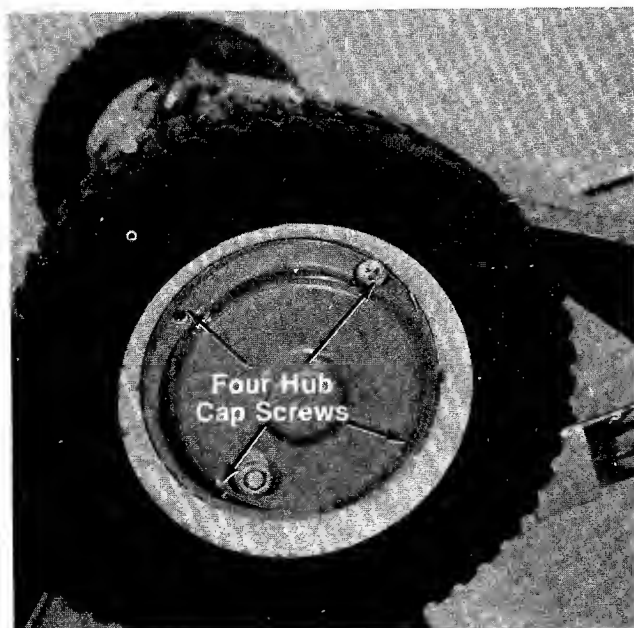

FIGURE 20.
8. Remove both rear wheel hub caps by removing the four screws on each one. See figure 20.